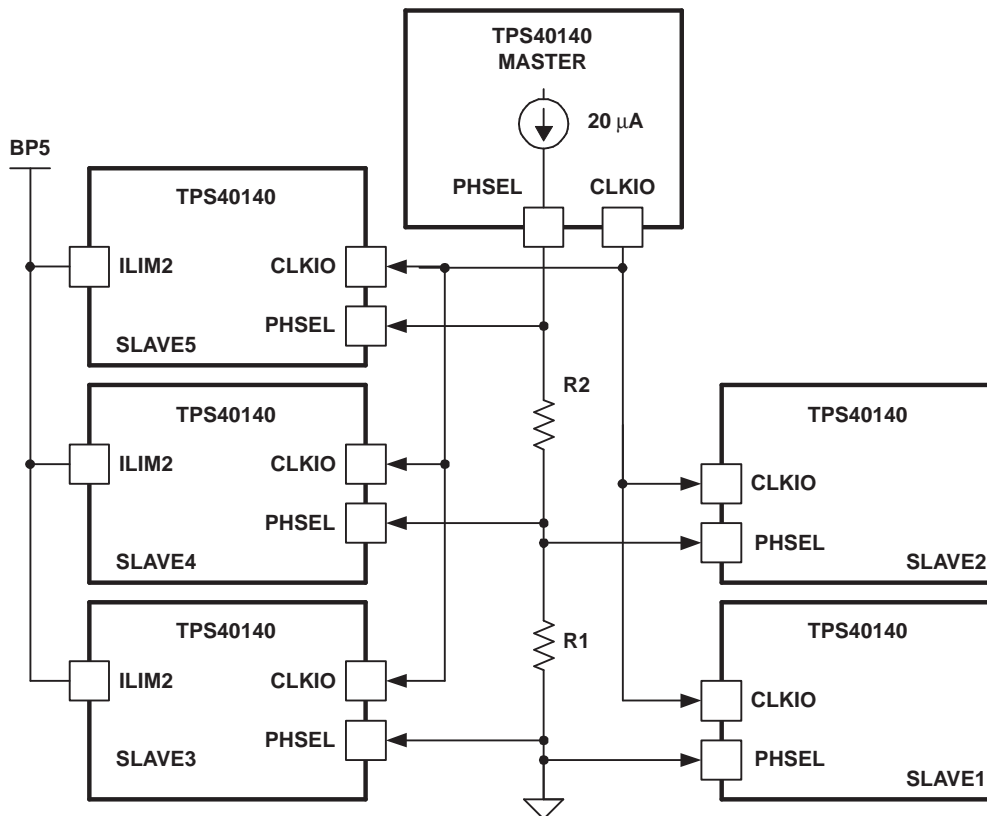
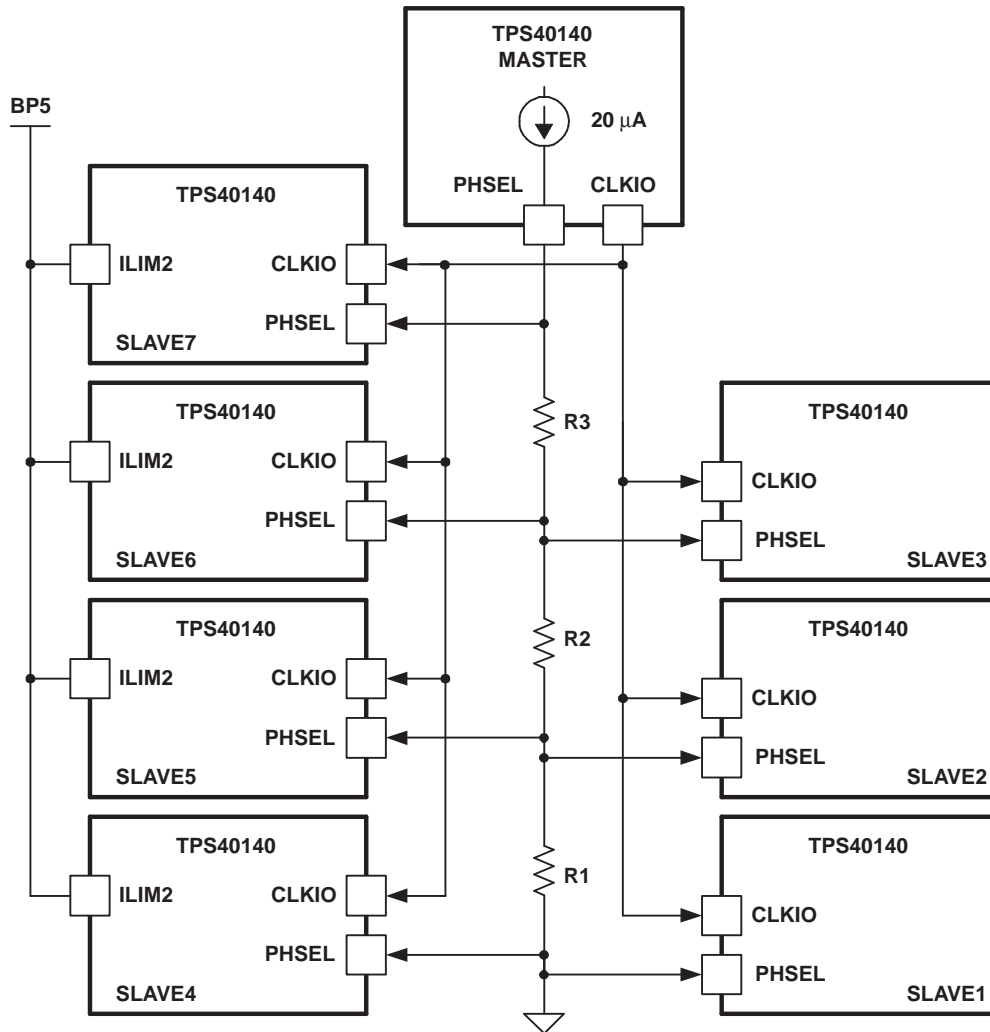
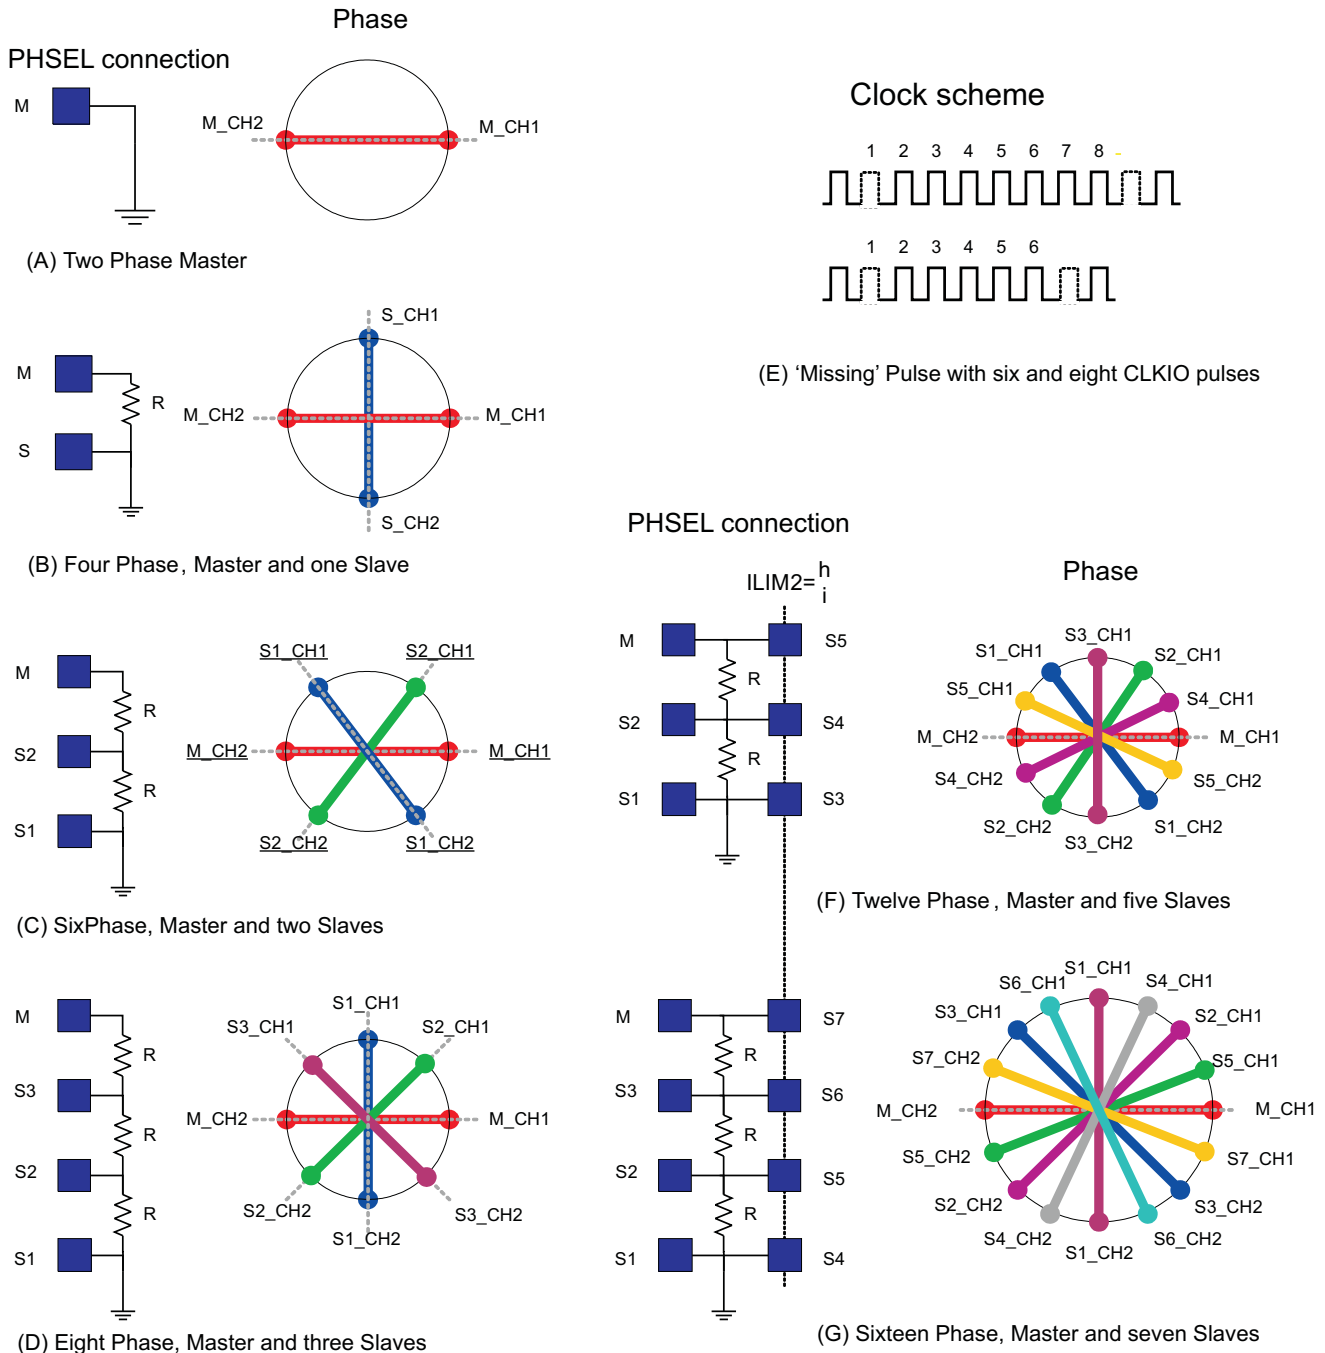

Figure 5-18. Master Controller and Five Slave Controllers, 12 Phases
Figure 5-19. Master Controller and Seven Slave Controllers, 16 Phases
Figure 5-20. Clock Phasing Summary
To further increase the total current capability to twelve phases, or to increase the number of outputs, five Slave controllers can be added as shown in Figure 5-18
If 4 Slaves are desired, just delete one of the Slaves from Figure 5-18. The interleaving will not be perfect because there will be 30 degrees between the Master and 3 Slaves. The deleted Slave will cause 60° between the 2 adjacent Slaves. See Figure 5-20 for phasing details.
To further increase the total current capability to sixteen phases, or to increase the number of outputs, seven Slave controllers can be added as shown in Figure 5-19.
In this configuration, the Master senses that there are three Slave controllers (due to the 3 resistors) and distributes an eight-phase CLKIO signal. Slaves 1, 2 and 3 are turned on at 45° and 90° respectively as before with 3 Slaves. However, to get 16 phases with an 8-phase clock, both edges of the CLKIO signal are used to control the slaves. With the ILIM2 tied high on Slaves 4, 5, 6, and 7 they turn on at the rising edge of CLKIO, while the Master and Slaves 1, 2, and 3 turn on at the falling edge of CLKIO. If 6 Slaves are desired, just delete one of the Slaves from Figure 5-19. The interleaving will not be perfect because there will be 22.5° between the Master and 3 Slaves. The deleted Slave will cause 45° between the 2 adjacent Slaves. See Figure 5-20 for a phasing details.
Figure 5-20 is a summary of the Master and Slave clock phasing. The Master and the Slaves can be selected to be a multi-phase, single output configuration and/or several independent output voltage rails, independent of the clocking.
The solid square boxes in Figure 5-20 represent the PHSEL pin of the Master (M) controller or a numbered Slave controller (S1-S7). The labels on the spokes of the wheels indicate a Master Channel 1 and Master Channel 2 (M_CH1 and M_CH2) and numbered Slaves Channel 1 and Slave Channel 2 (Sn_CH1 and Sn_CH2). The Channel 1 and Channel 2 of a given Master or Slave is always 180° out of phase.
The 3-phase system could also be configured with 1 channel of the Master and 2 channels of the Slave. Referring to part (B) above, the 3 phases could be Master CH1 or Master CH2 and Slave CH1 and Slave CH2. In either of these configurations there will be 90° between two of the channels and 180° between the other channel. The unused channel could be another independent output voltage whose clocking would occupy the phase not used in the 3-phase system. This philosophy can be used for any number of phases not shown in Figure 5-20, Clock Phasing Summary.